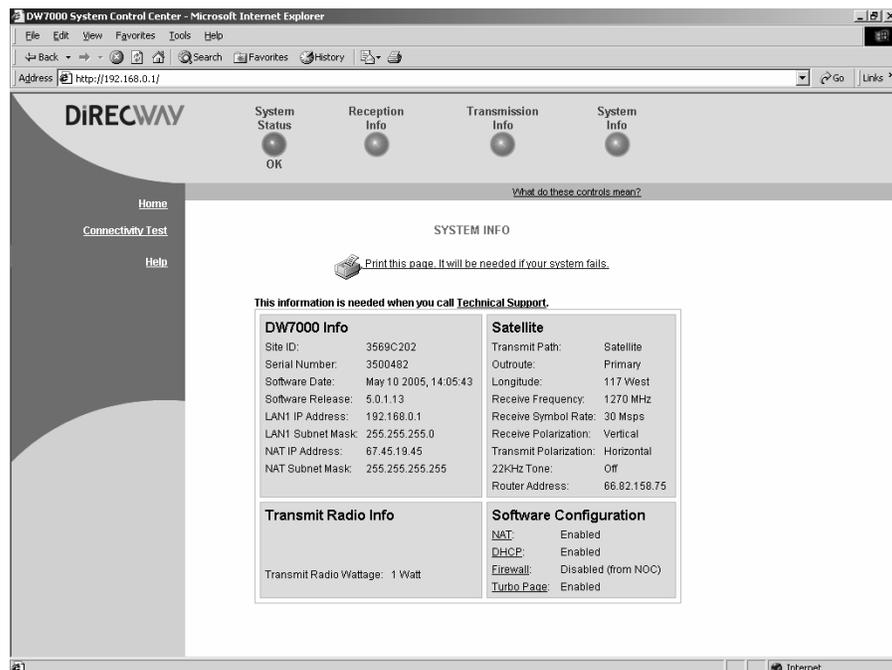

Figure 77: Printing the System Information page
2. Click the **System Info** indicator. The System Information page appears. See Figure 77.
Note: The System Information page shown in Figure 77 is for illustrative purposes only. The fields and values displayed may vary by customer type and location.
- e. At the prompt, type **ping** followed by a space and the router address and press **ENTER**. For example, if the router address is 66.82.158.75, as shown in Figure 77 on page 76, type **ping 66.82.158.75** and press **ENTER**.